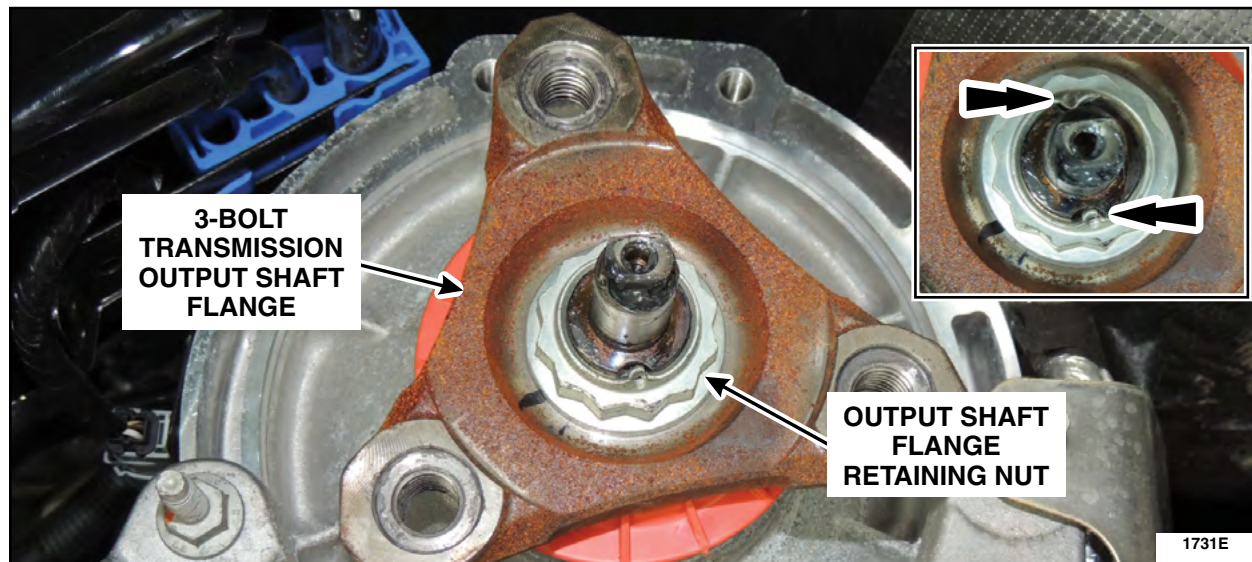

FIGURE 12
2. Using a 1/2" drive, 34mm, 12-point deep socket, remove and discard the 3-bolt transmission output shaft flange retaining nut and flange. (See Figure 12):